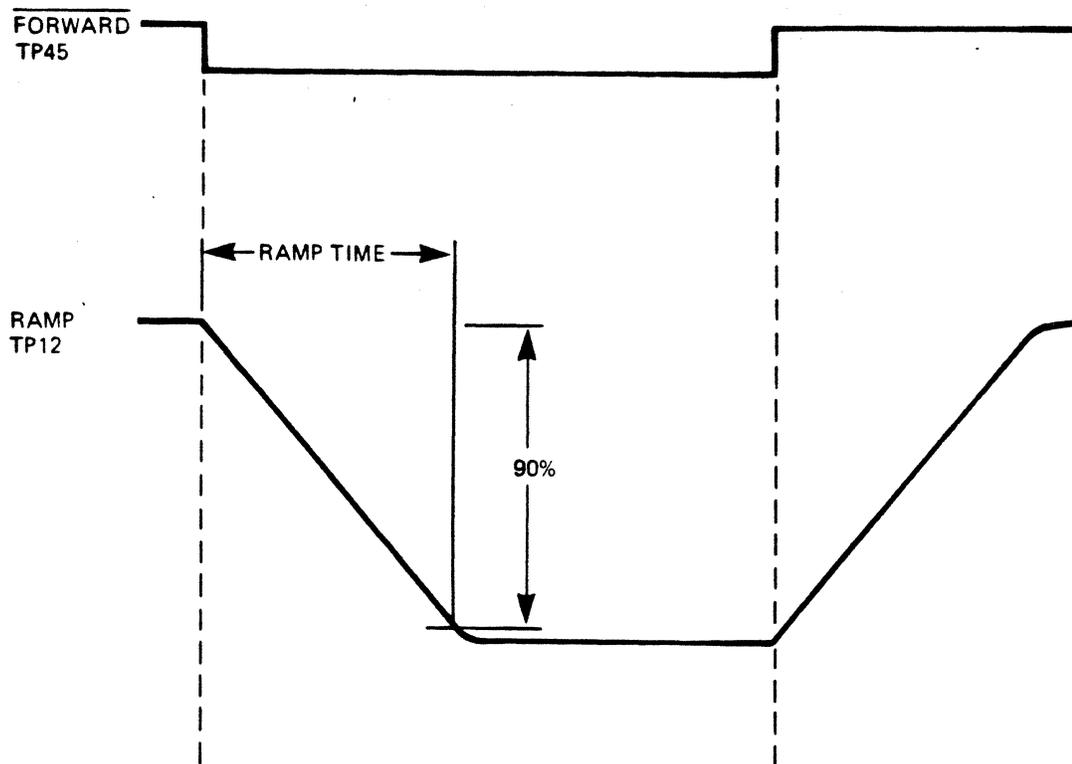

Figure 5-2. Forward Ramp Waveform
- b. Initiate a forward-start/stop tape motion using either TP201 or TP202. Observe the oscilloscope display (see figure 5-2).